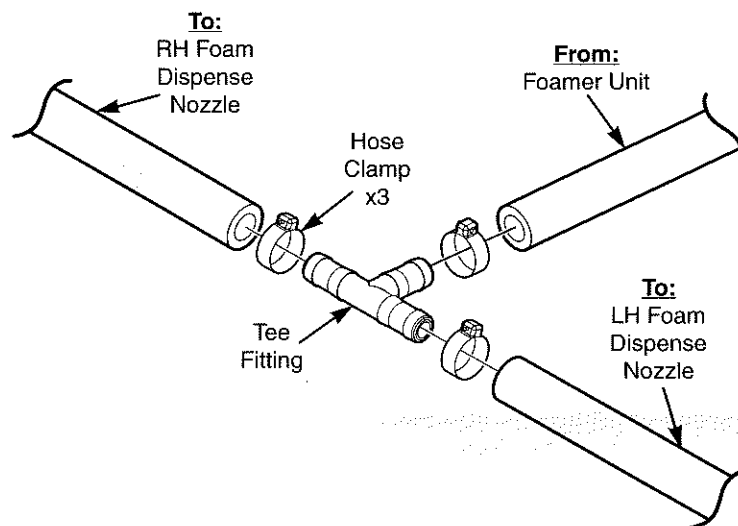

Figure 6. Assemble Supply Hoses and Secure with Hose Clamps
7. Assemble the tee fitting included with this kit to the foam supply hose routed from the foamer unit and secure with one (1) hose clamp. See Figure 6.
8. Attach the hoses routed to the right-hand and left-hand foam dispense nozzles to the tee fitting installed in the previous step and secure each hose with one (1) hose clamp. See Figure 6.